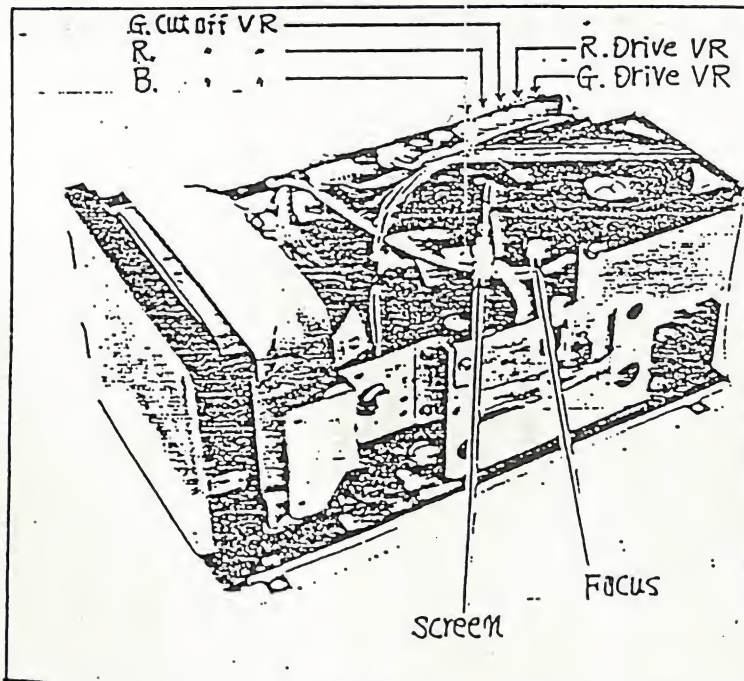

Fig. 2-8
3. Turn the green cutoff VR (R707) fully clockwise and the red and blue cutoff VRs (R704, R701) fully counter-clockwise. (Fig. 2-8)
Adjust the screen VR (Fig. 2-8) so that the vertical green band becomes easy to see.
2. Turn the red and blue cutoff VRs fully clockwise and the green cutoff VR fully counter-clockwise (Fig. 2-8). Adjust the screen VR (Fig. 2-8) for an easily seen image.
3. Turn the red, blue and green cutoff VRs (R704, R701, R707) and the screen VR (Fig. 2-8) fully counter-clockwise to eliminate luminance.